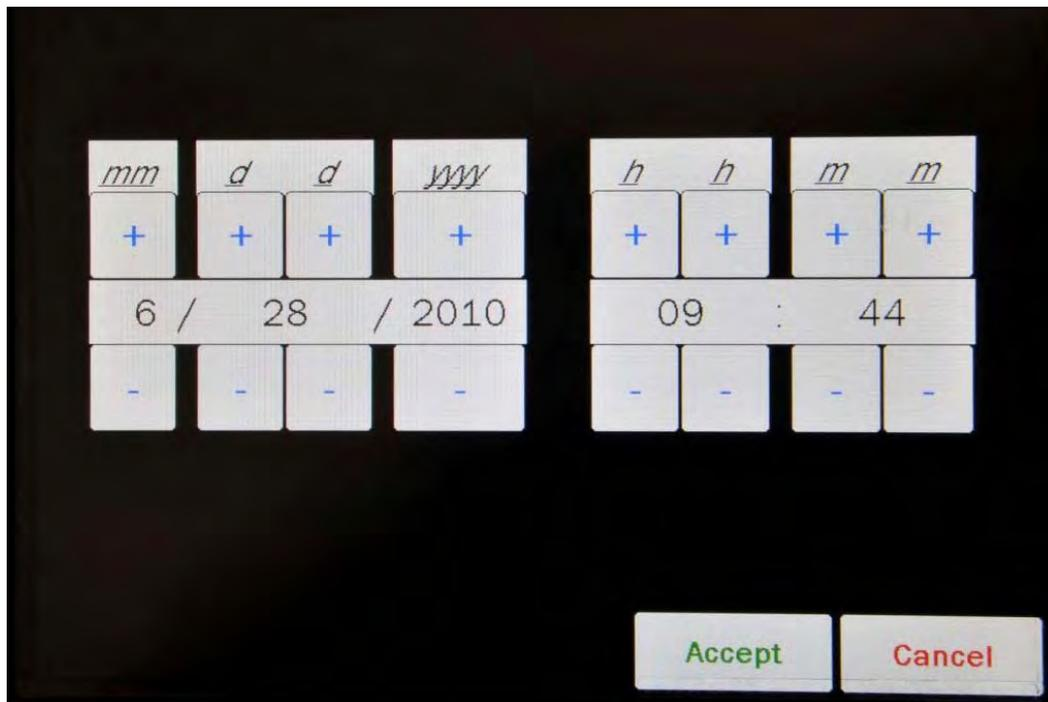

Figure 10-3 Date/Time Screen
3. Touch the **DOSE DECAY** button. Figure 10-3 Date/Time Screen will appear.